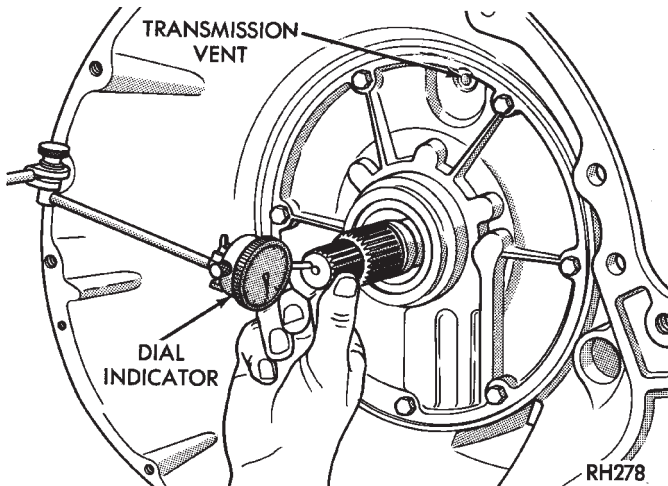

Fig. 110 Checking Input Shaft End Play
(43) Measure input shaft end play (Fig. 110).